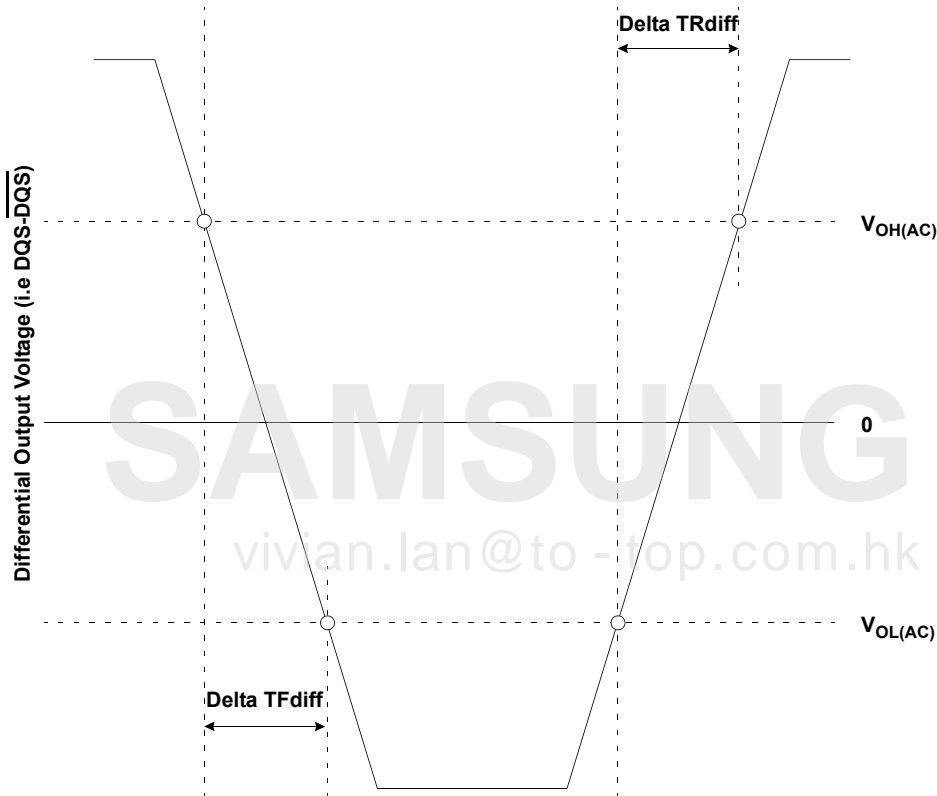

Figure 9. Differential Output Slew Rate Definition
With the reference load for timing measurements, output slew rate for falling and rising edges is defined and measured between VOLdiff(AC) and VOHdiff(AC) for differential signals as shown in Table 30 and Figure 9.